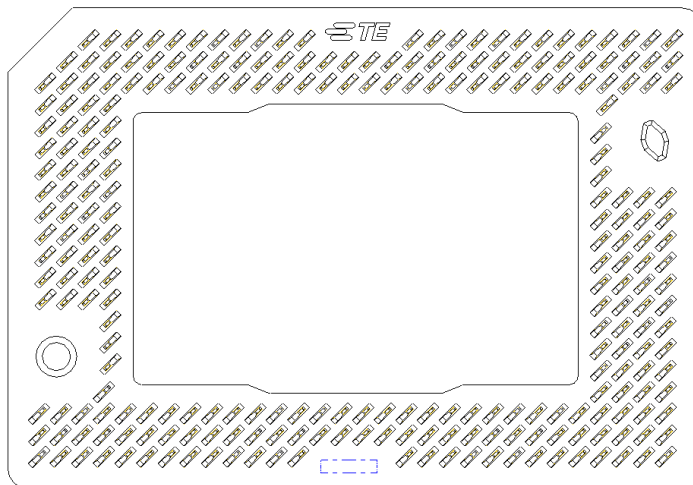

Figure 1
1. 00x1.00mm pitch (X by Y) with a 45 degree pattern and are arranged in single base housing as illustrated in Figure 1.
LGA257 socket provides elastic contact on bottom of socket to make contact to PC board. The housing holds an array of the contact. Please refer to figure 1.